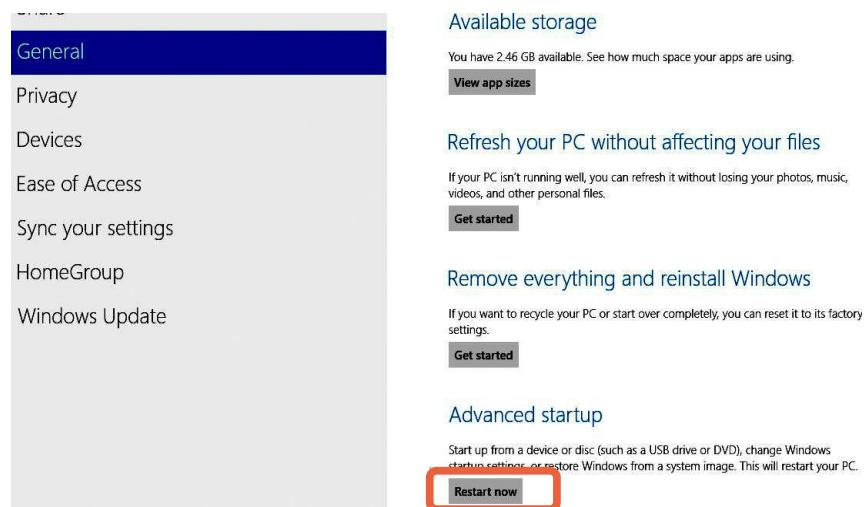

Figure 53: Under "Advanced Startup", click "Restart now"
- In the “**General**” setup section, click the “**Restart now**” button just below the “**Advanced Setup**” section (Figure 53).